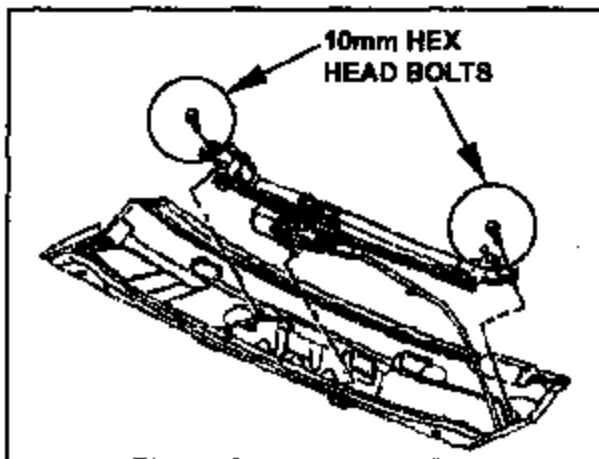

Figure 3
13. Remove the two 10 mm hex head bolts that attach the wiper module to the plenum sheet metal (see figure 3).